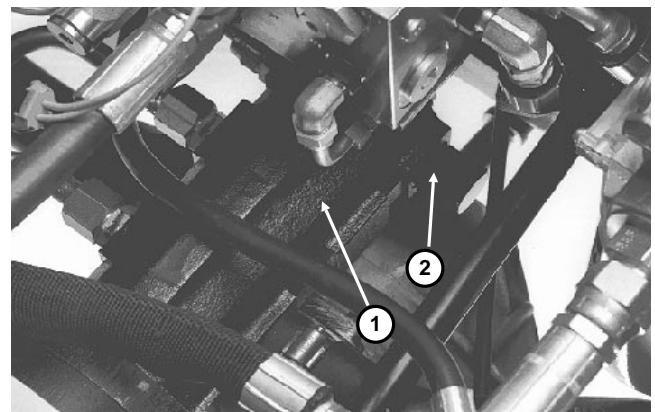

Figure 7b
11. If flow is lower than 3.5 GPM or a pressure of 1000 PSI cannot be obtained, check for restriction in pump intake line. Check relief valve in pump for contamination or wear. Adjust pump relief valve to 1250 PSI cracking pressure by removing cap and turning adjustment screw (Fig. 7b). If pump intake line is not restricted and relief valve is functioning properly, remove pump and repair or replace (see Pump Removal and Installation and Pump Repair in Mowing Circuit Repairs section of Chapter4 - Hydraulic system).